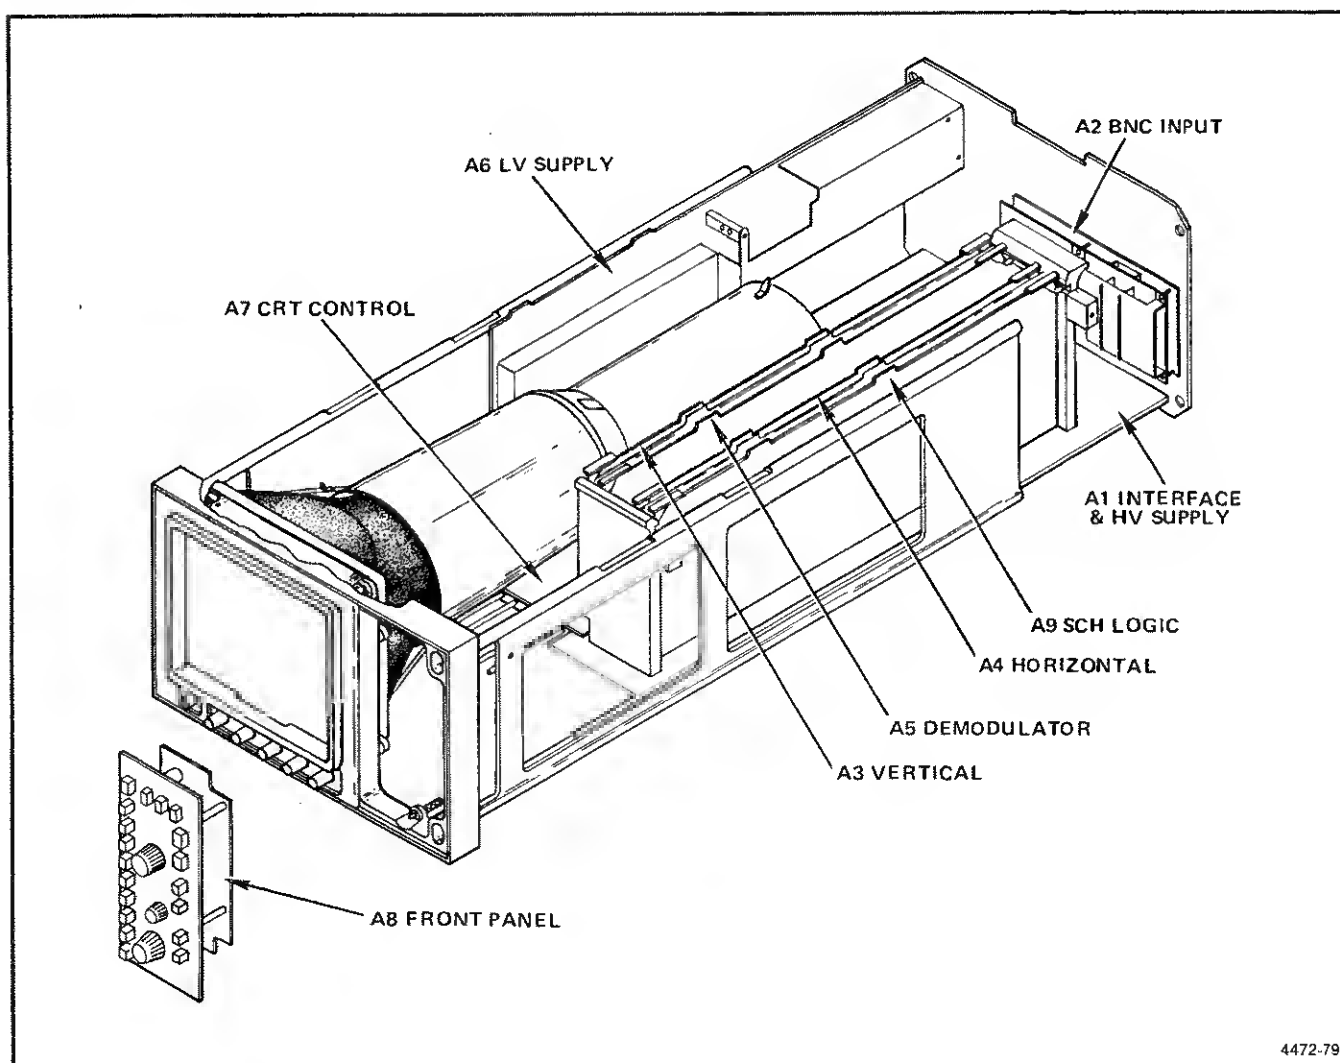

Fig. 6-2. 1750-Series assembly locations.
**Assembly and Circuit Numbering.** The circuit board assemblies are assigned assembly numbers. Fig. 6-2 shows the location of the circuit board assemblies in the instrument.
The circuit boards are referred to by assembly number (e.g., A4 refers to the Horizontal board). Fig. 6-2 provides the assembly names and locations.